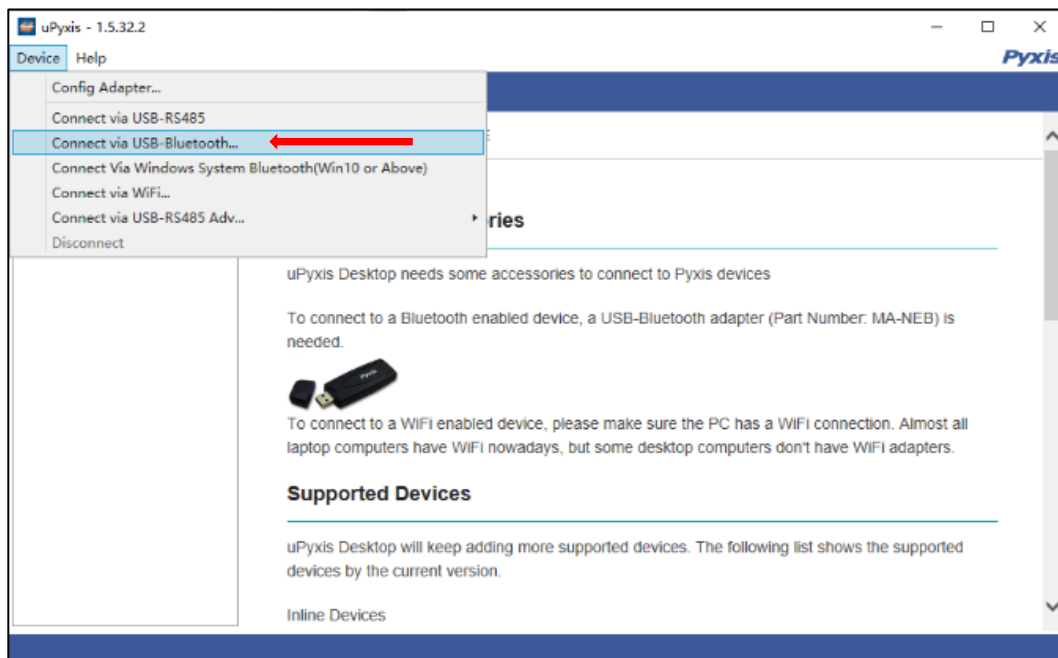
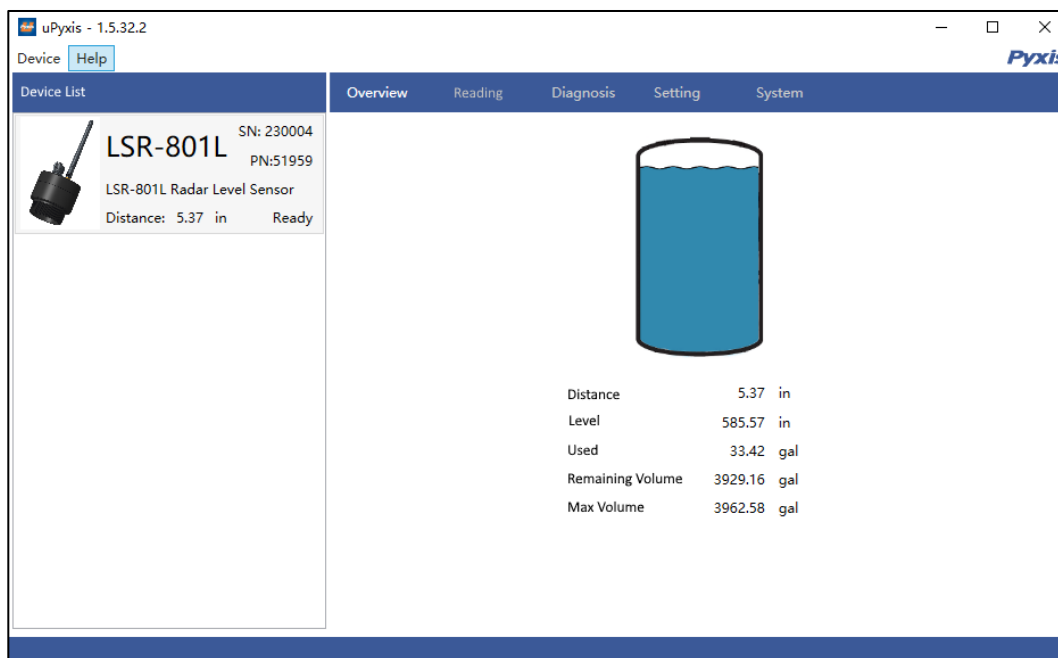

Figure 8. Connect uPyxis desktop app to LS-801 Series Radar Level Sensor
Figure 9. uPyxis Live Display After Connection to LSR-801 Series Sensor
3. On uPyxis Desktop, click menu Device -> **Connect via USB-BlueTooth 5.0®** as shown in Figure 8. If the connection is successful, the LSR-801 Series image and its Serial Number will be displayed in the left pane of the uPyxis window as shown in Figure 9.